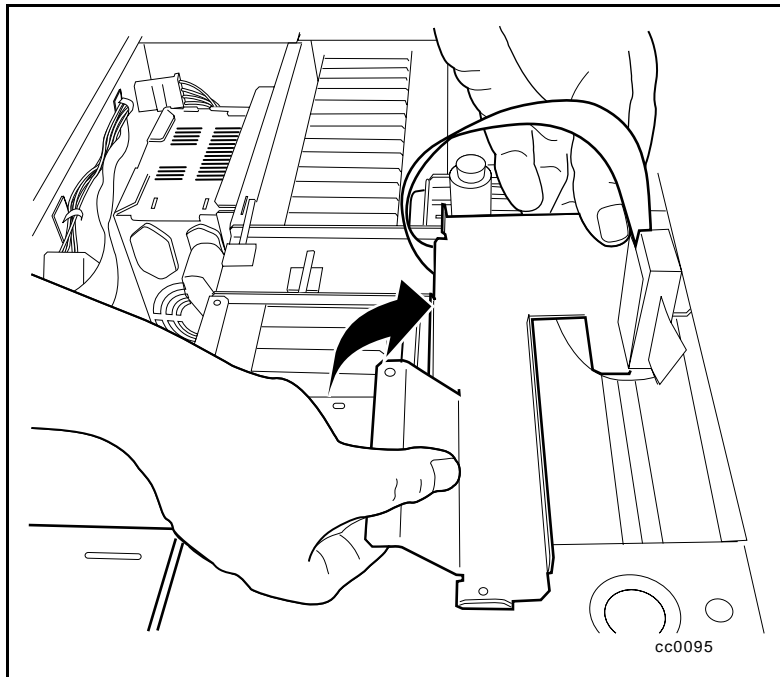

Figure 5-25. Turning the base plate
7. Gently roll the brace plate cover and ribbon cable assembly over and safely out of the way (see Figure 5-25).